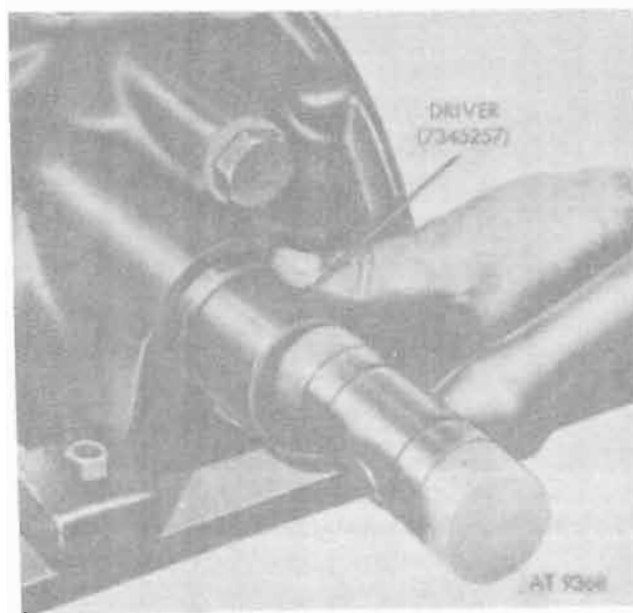

Figure 12-49. Using driver (7345257) to install pinion shaft rear bearing seal, spacer, and bearing.
d. Install bearing, spacer, and seal into housing, using driver (7345257) (fig. 12-49).